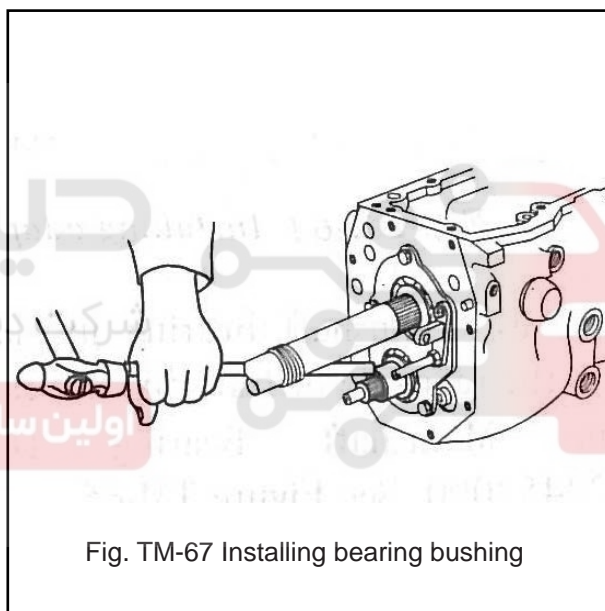

Fig. TM-67 Installing bearing bushing
(3) Using a proper brass drift, install overdrive gear bushing onto counter shaft. See figure TM-67.